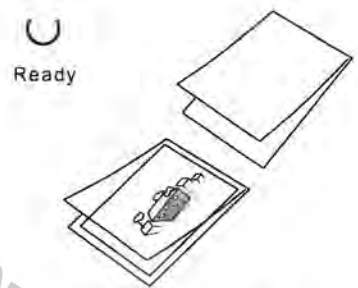

Figure 2
- Insert the pouch with the item, sealed edge first into the paper CARRIER that is included with each carton of pouches. Position the sealed edge of the pouch against the inside folded edge of the carrier. (figure 2)
- After you have finished laminating, move the switch to the OFF (O) position.